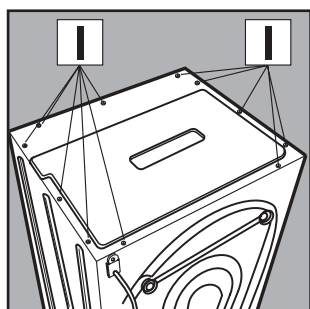

Fig. 13
- Remove the cover by unscrewing screws **I** [fig. 13].